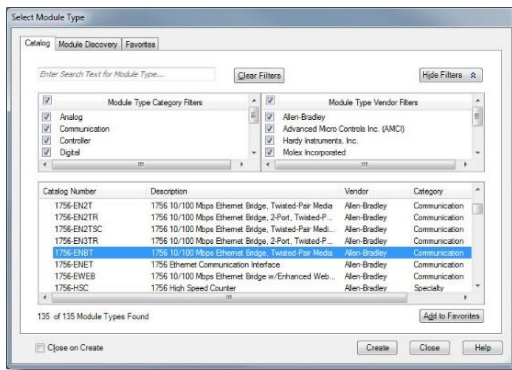

Figure 15: Adding a New Module
- 5) Select the “1756-ENBT”, and click “Create”. Refer to Figure 15.